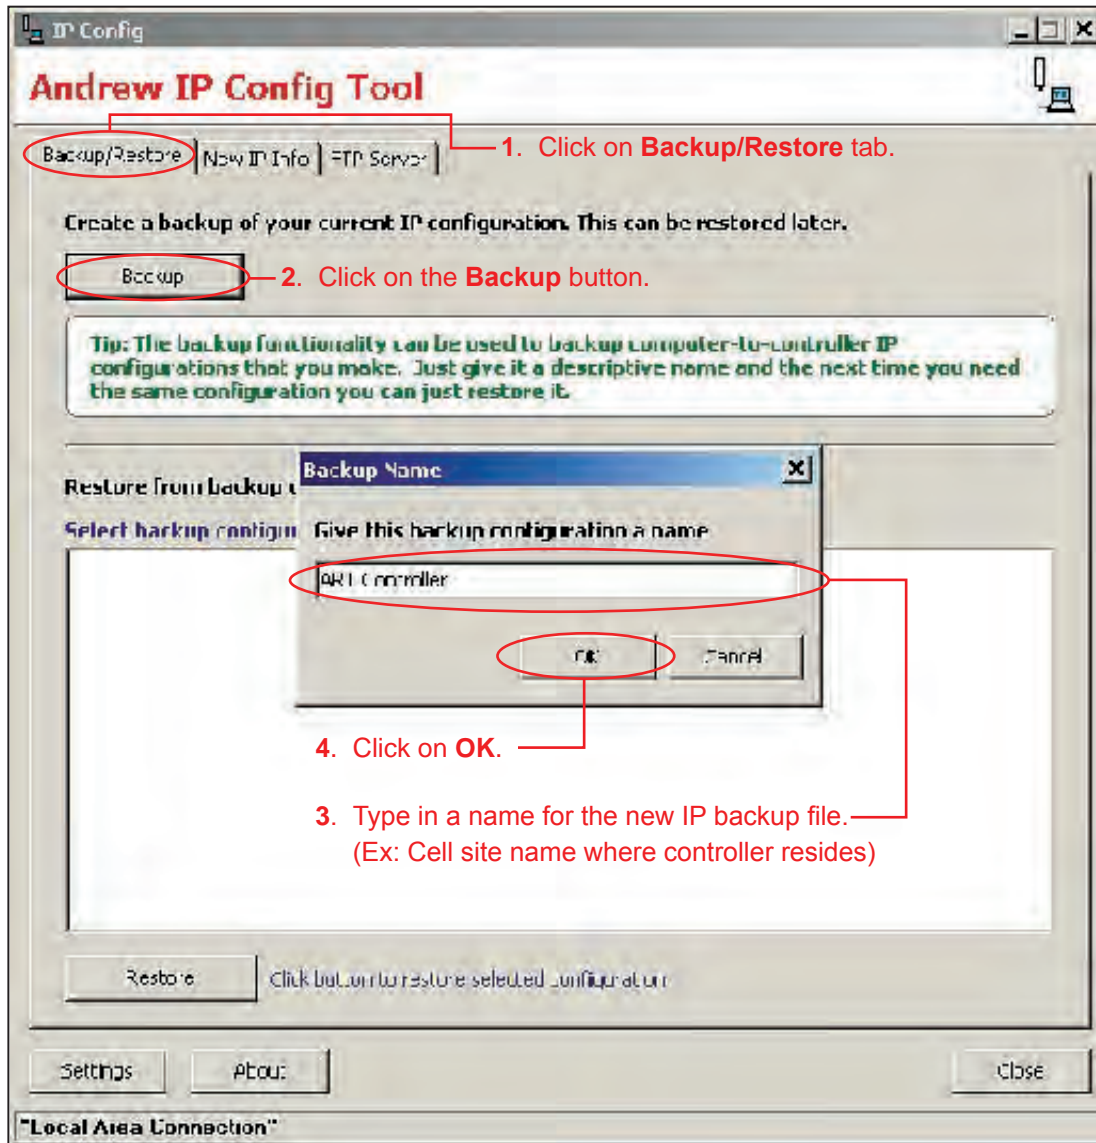

Figure 3-6. Saving New IP Backup File For Future Access To The Controller.
1. The new IP address can be saved for future access to the controller from the same computer. Click on the **Backup/Restore** tab, located at the top of the screen (Figure 3-6).
2. Click on the **Backup** button (Figure 3-6).
3. Type in a name of your choice for the new IP configuration backup file, and click on **OK** (Figure 3-6).